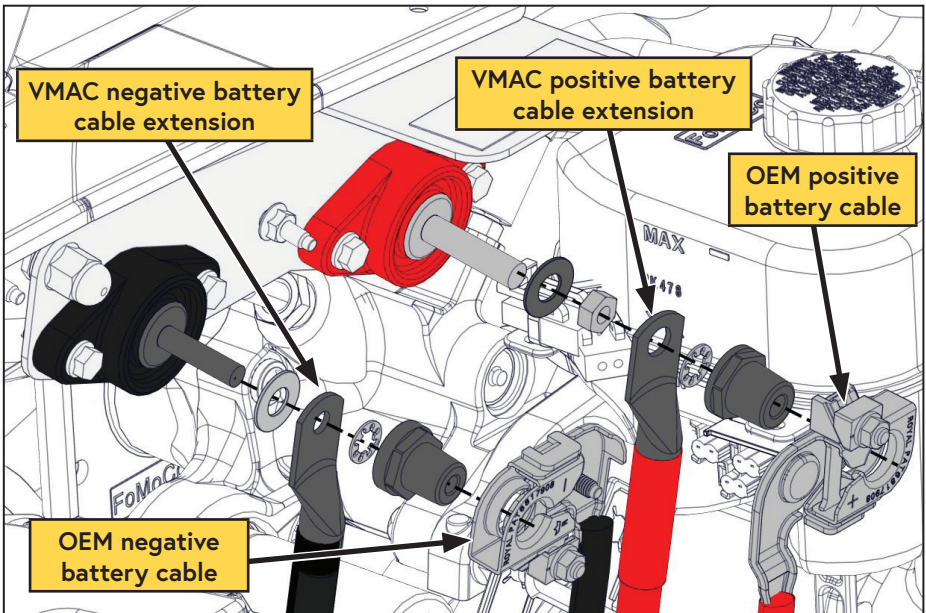

Figure 70 — Mount battery disconnect bracket
- ☐ Connect the VMAC and OEM battery cables to the battery disconnect bracket (Figure 70).